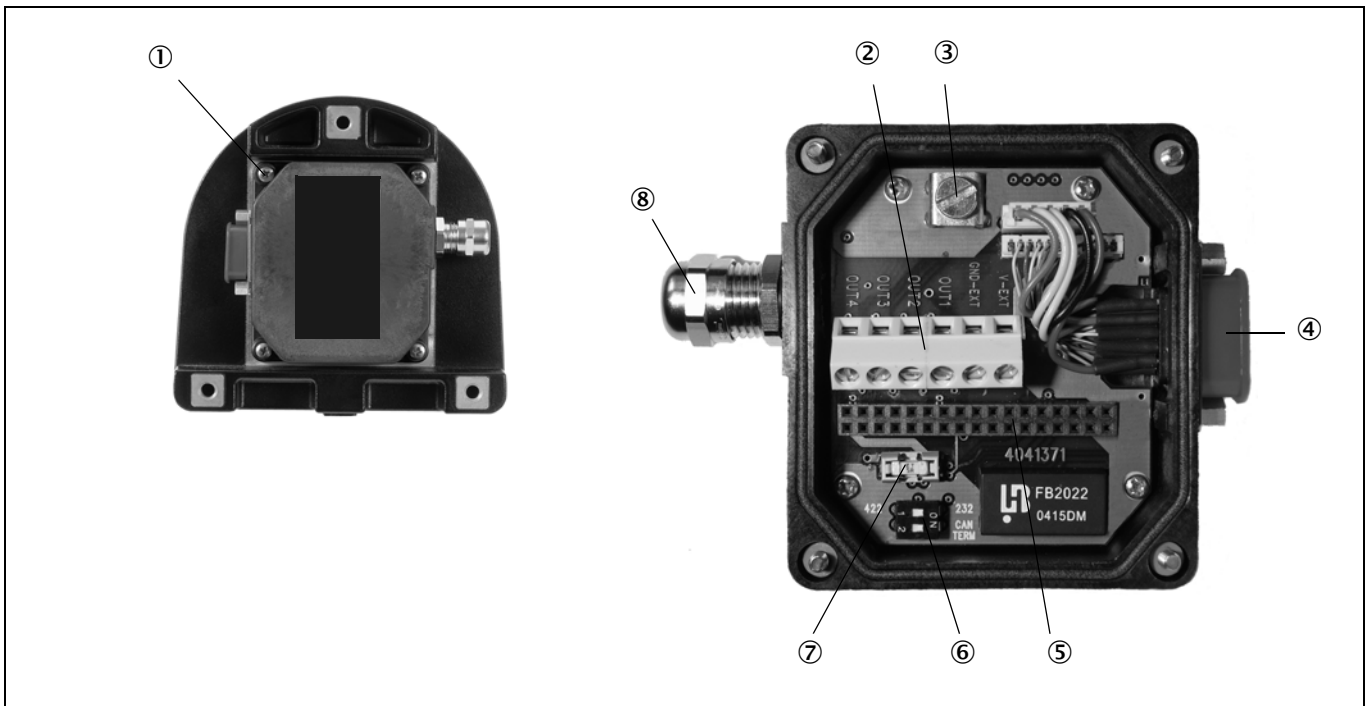

Fig. 17: NAV300: layout of the interface adapter
- Remove interface adapter on the underside of the device. For this purpose loosen the four fixing screws (Fig. 17 on page 36) and pull the adapter carefully off the device perpendicular to the base.